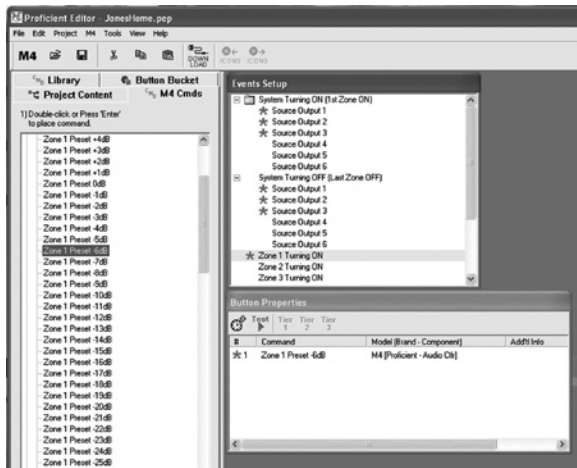

Figure 36 Placing Zone Preset Levels
5. Under **M4 Library**, double-click **Zone 1 Preset –6dB** to place it on the Command list for **Zone 1 Turning ON**. Refer to **Figure 36**.